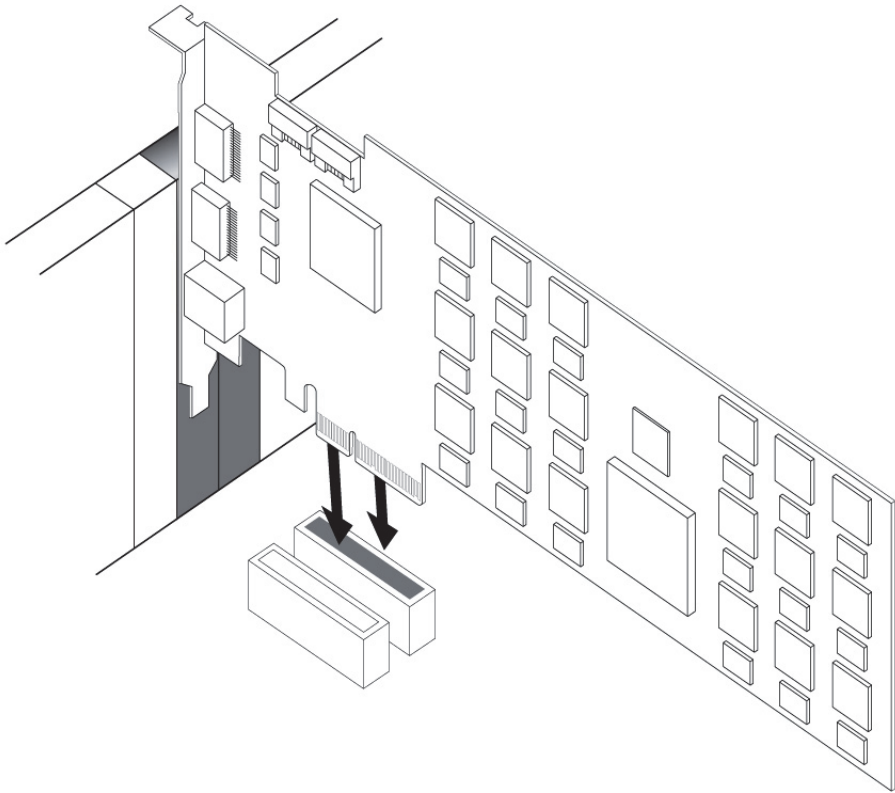

Figure 8. Installing an HDX card in your PC
- 6 Install the first HDX PCIe card in the recommended PCIe slot (typically this is the first PCIe slot, closest to the video card). (See Figure 8 on page 19.)